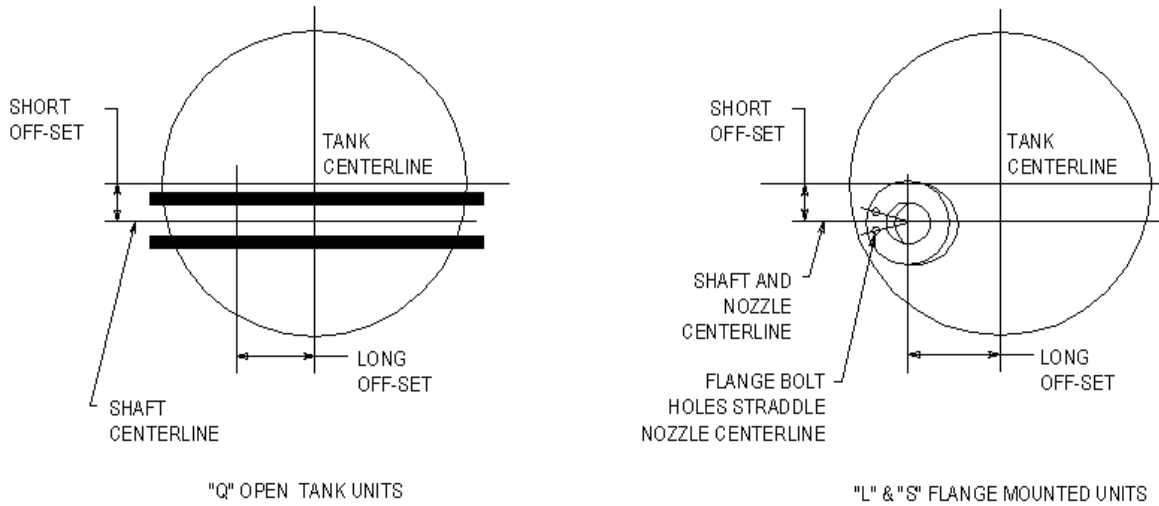

FIGURE 4
2.6 Mixer Positioning Data for fixed mounted "Q", "L", & "S" Units on unbaffled tanks. Refer to Figure 4 and Table 1.